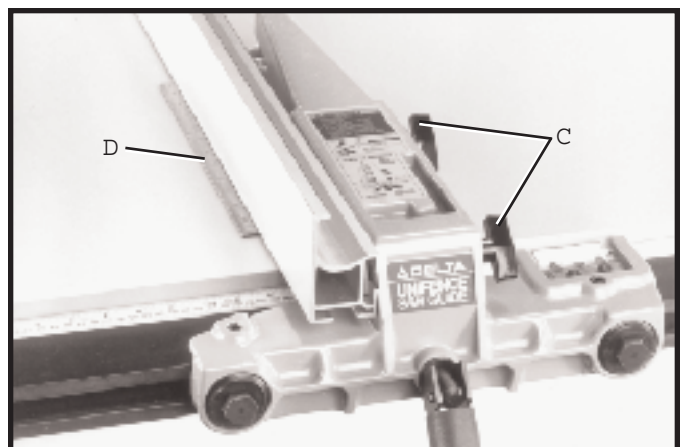

Fig. 49
2. For most normal ripping operations, the bottom of the fence should be positioned slightly above the table surface. Loosen two lock knobs (C) Fig. 49, and place a thin object such as a ruler (D) between the table and fence, as shown. Then tighten two lock knobs (C).